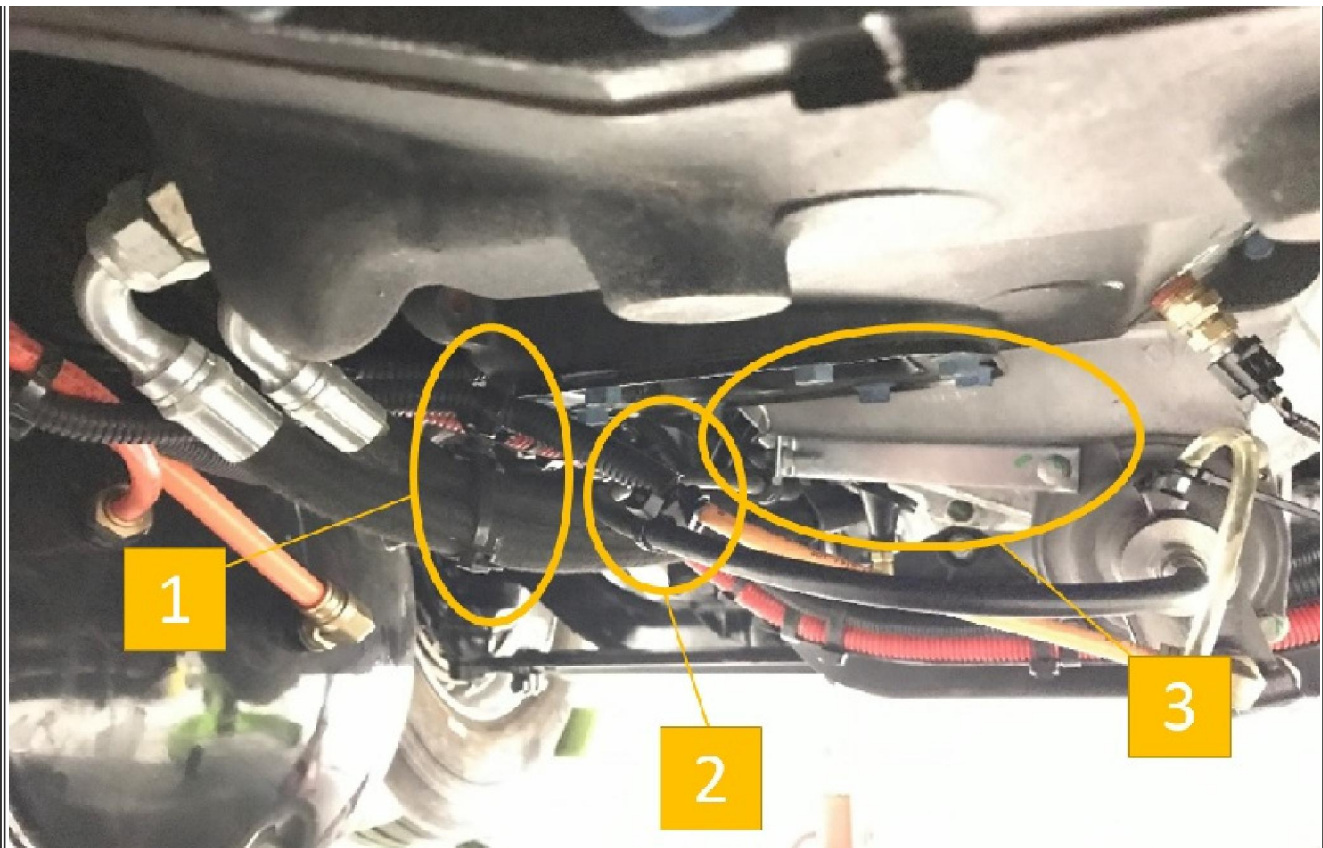

Figure 5. Correct air assist servo Cylinder Supply Hose Routing
3. Re-position the extension bracket (Figure 5, Item 3) bolted to the air assist servo cylinder as high as possible without causing a hose rub condition.
4. Re-route the air line over the transmission cooler lines (Figure 5, Item 1).
5. Secure the air line to the air assist servo cylinder supply hose with a new zip tie to the saddle clamp (Figure 5, Item 2).